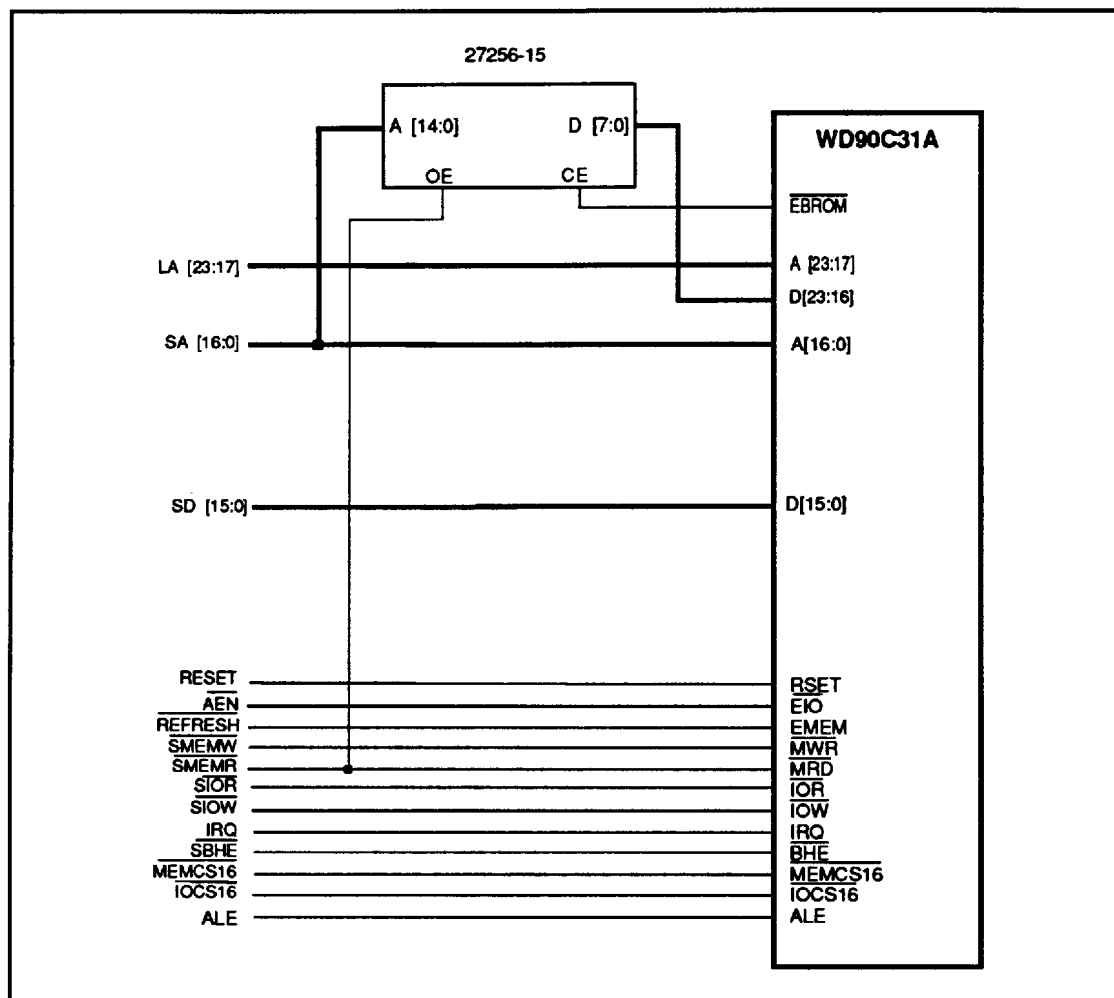

FIGURE 3-5 AT COMPATIBLE INTERFACE (16-BIT) AND 8-BIT BIOS
- Figure 3-5. AT Compatible Interface (16-bit) And 8-bit BIOS
The WD90C33 provides all the signals and decodes all the necessary memory and I/O addresses to interface with the Local bus, AT bus, or the MicroChannel bus in 8-bit or 16-bit data path modes. It also provides the necessary decoding of the adapter video BIOS ROM. Using the provided signals, it is possible to implement designs which operate in 8-bit or 16-bit mode and control an 8-bit or 16-bit BIOS ROM (see Figures 3-5 through 3-7).
Figure 3-5 shows the interface between a 16-bit AT compatible bus, an 8-bit BIOS, and the WD90C33 Controller. The typical use for this configuration is with 286/386 based systems.